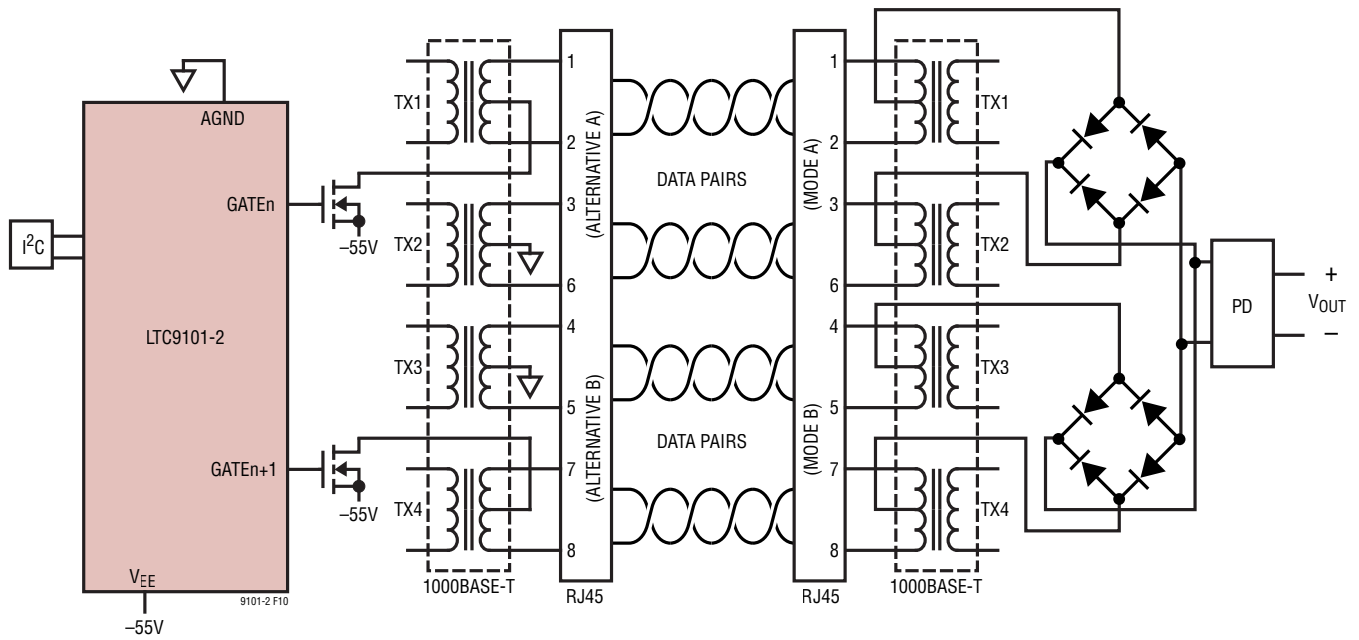
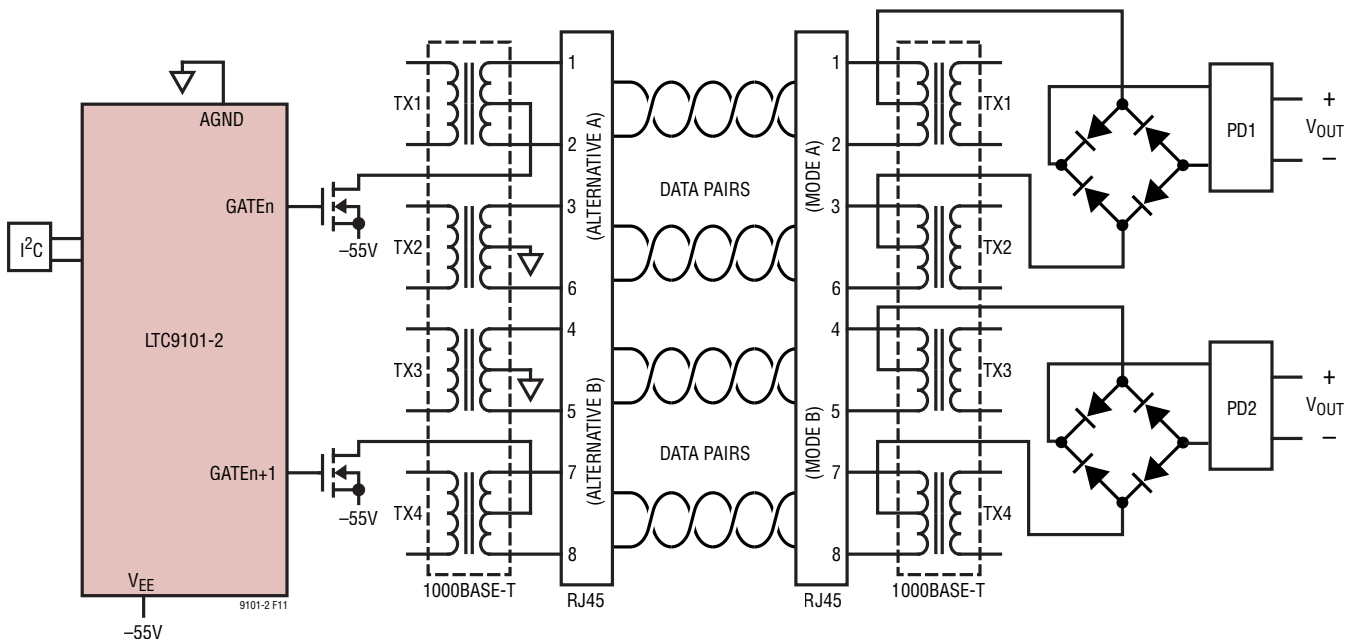

Figure 10. 4-Pair Power over Ethernet Single-Signature PD System Diagram
Figure 11. 4-Pair Power over Ethernet Dual-Signature PD System Diagram
To support 802.3bt 4-pair operation, two LTC9102 channels (1,2 and 3,4) are associated with each port. As such it is required that power channels are connected to Alternative A and Alternative B, respectively (see Figure 10). In 4-pair mode the host is responsible for deciding if both power channels will be utilized to power a given PD. Thus 2-pair powering in 4-pair mode can be used to power single-signature Class 0 to 4 PDs. For higher power Class 5 to 8 PDs and for all dual-signature PDs, both power channels must be utilized, also referred to as 4-pair power (see Figure 11).
Common Ethernet data connections consist of two or four twisted pairs of copper wire (commonly known as Ethernet cable), transformer-coupled at each end to avoid ground loops. PoE systems take advantage of this coupling arrangement by applying voltage between the center-taps of the data transformers to transmit power from the PSE to the PD without affecting data transmission. Figure 10 and Figure 11 show high level PoE system schematics.
- Type 3 and 4 PDs can be formed as either a single-signature PD or dual-signature PD. A single-signature PD presents the same valid signature resistor to both pairsets simultaneously (see Figure 10). A dual-signature PD presents two fully independent valid detection signatures, one to each pairset (see Figure 11).
In 802.3at, only one PD configuration was described; this is known as a single-signature PD and is shown in Figure 10. A single-signature PD presents the same 25k detection resistor to both the pairsets in parallel.
New in 802.3bt is the dual-signature PD as shown in Figure 11. A dual-signature PD presents two fully independent 25k detection signature resistors, one to each pairset.